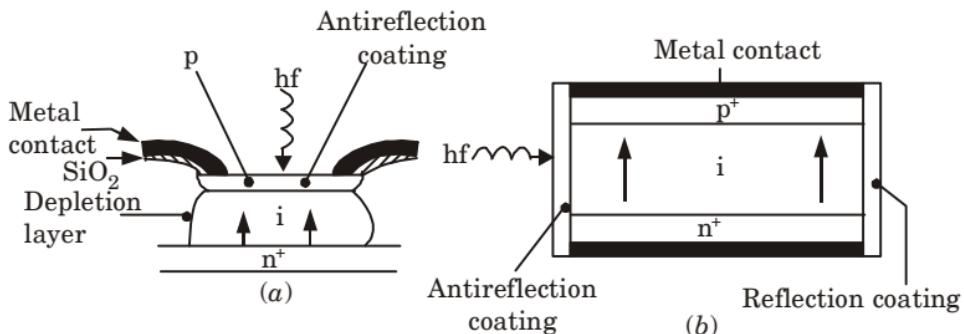

Fig. 23. (a) Structure of a front illuminated silicon p-i-n photodiode
- Fig. 23 shows the structure of two types of silicon p-i-n photodiode for operation in the shorter wavelength band below 1.09 μm .